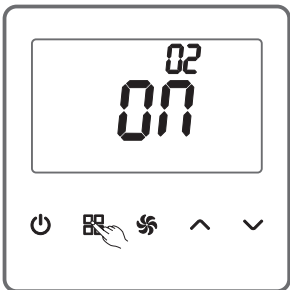

Figure 8
As shown in the Figure 8, on the parameter setting page, press  (MODE) to switch the option number to 02.  (UP) or  (DOWN) is provided to allow a switch between ON and OFF.
(3) Drying function